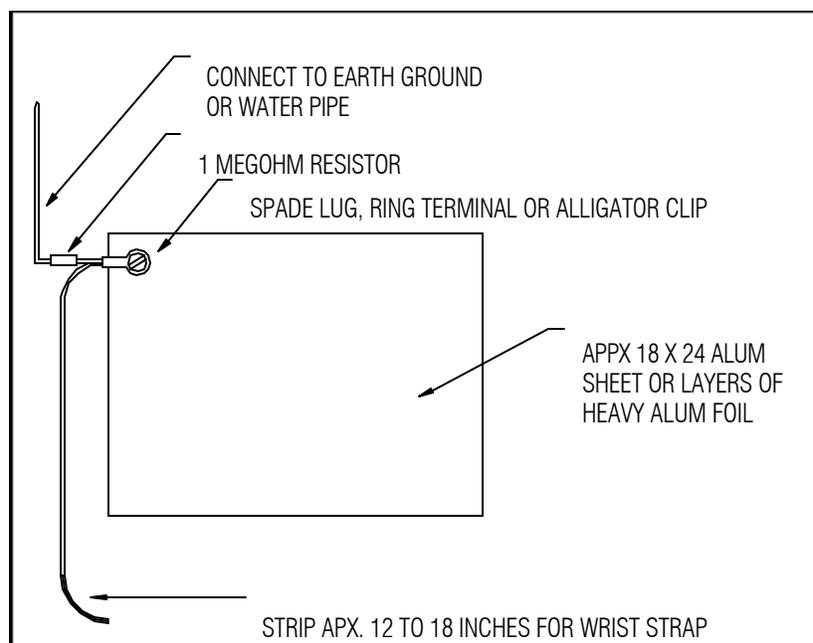

Figure 6 Antistatic station layout.
Figure 6 shows the layout of a homemade antistatic station. The purpose of the station is to keep your body, the assembly you're working on and the tools all at the same voltage potential. Normally the conductive work plate is made from a material that will carry off any static charge while at the same time allowing working PC boards to lay on them without shorting anything out. Since operating boards won't be laid on the plate an aluminum sheet or layers of foil can be used.
- ___ 4. Connect as shown in Figure 6.